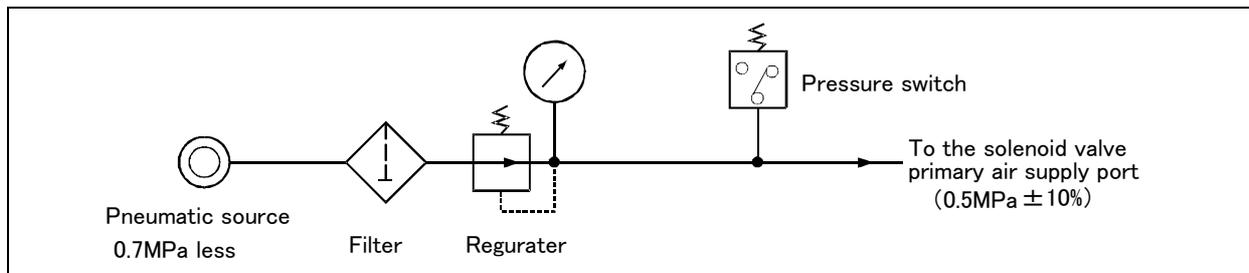

Fig.2-8 : Air supply circuit example for the hand
Fig. 2-8 shows an example of pneumatic supply circuitry for the hand.
- (1) Place diodes parallel to the solenoid coil.
- (2) When the factory pneumatic pressure drops, as a result of the hand clamp strength weakening, there can be damage to the work. To prevent it, install a pressure switch to the source of the air as shown in Fig. 2-8 and use the circuit described so that the robot stops when pressure drops. Use a hand with a spring-pressure clamp, or a mechanical lock-type hand, that can be used in cases where the pressure switch becomes damaged.
- (3) The optional hand and solenoid valve are of an oilless type. If they are used, don't use any lubricator.